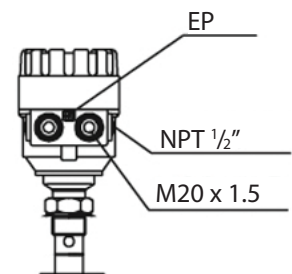

Figure 1: Basic 24 V Wiring – TDR to Power Supply
5. Connect the wires of the current loop to terminals 2 and 3 (any polarity). See Figure 1.